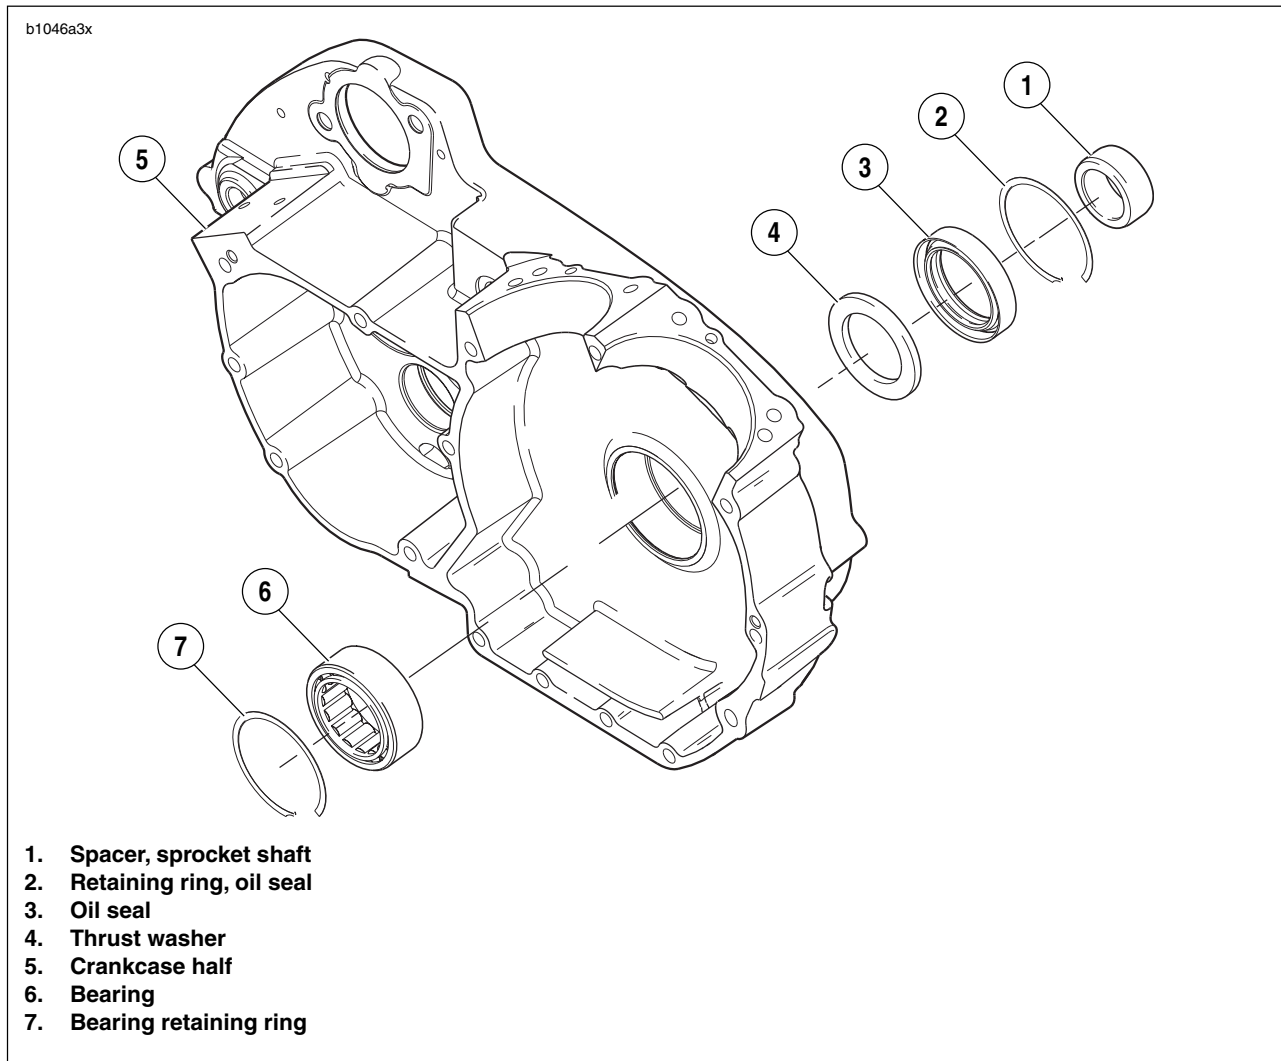

Figure 3-148. Left Main Bearing Assembly
9. See Figure 3-148. Install thrust washer (4) from the outside against the left main bearing.
10. Install **new** spacer (1) in seal ID. With the thin (lipped) side facing outward, center seal/spacer assembly over bearing bore.